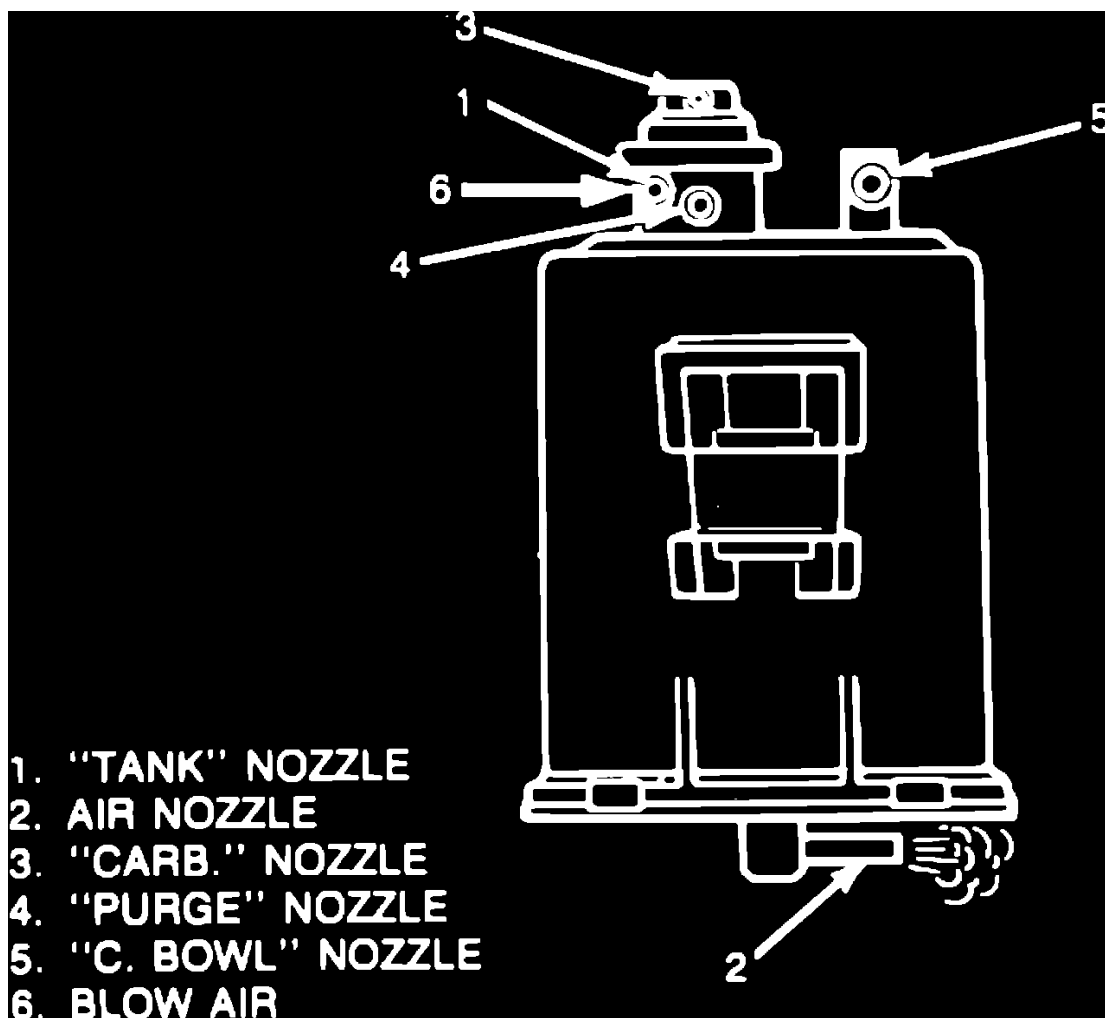

Fig. 8 Checking air flow from TANK nozzle
1. Blow air into TANK nozzle and check that air escapes from air nozzle at bottom of canister, **Fig. 8**.